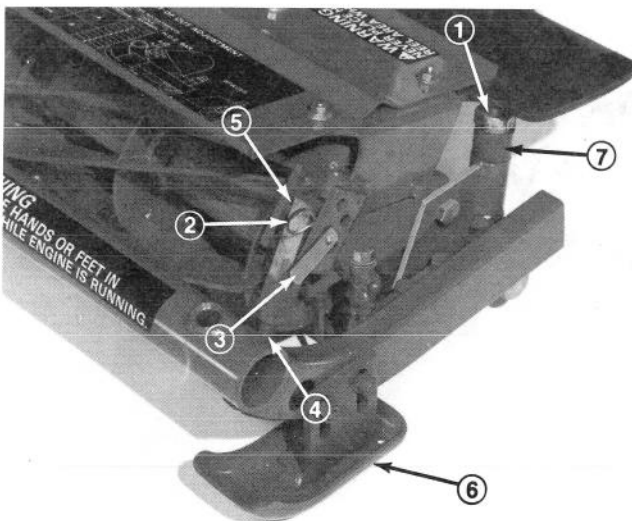

Figure 60
backlapping operation, one to work the controls and one to apply lapping compound and perform necessary adjustment (Fig. 60).
4. Remove hair pin cotters, height of cut pins and taper nuts from cutting unit, lift cutting unit off rod ends and remove from frame (Fig. 60).